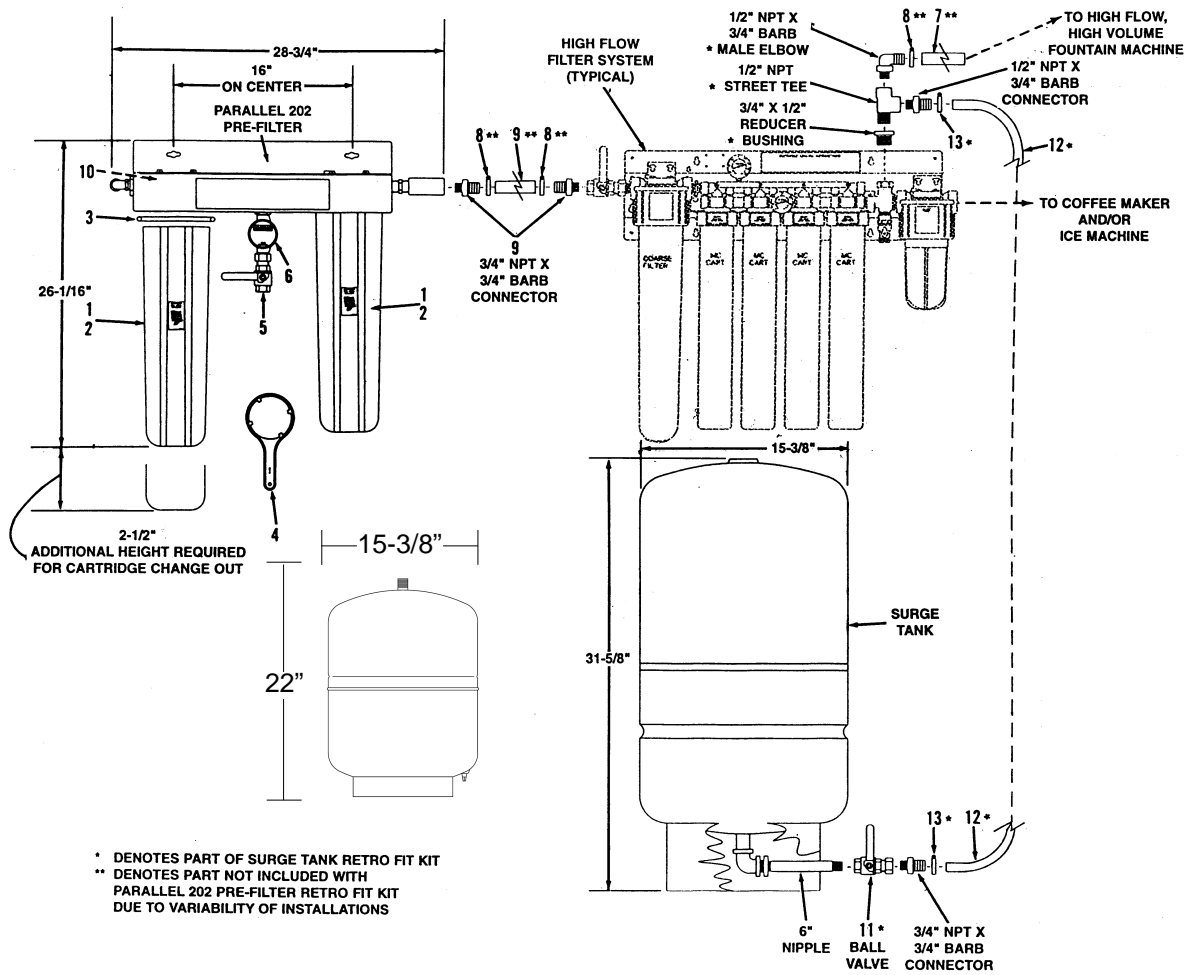

Figure 1. Parallel 202 Pre-Filter and/or Extra Capacity Surge Tank or Standard Surge Tank Retrofit Kit
6. Install a 1/2" NPT tee into the bushing and orient as shown in figure 1.
7. Install a 1/2" NPT x 3/4" barb connector into the branch of the plated cross and a 1/2" NPT x 3/4" barb elbow into the run of the plated cross. Orient the elbow as shown in figure 1.